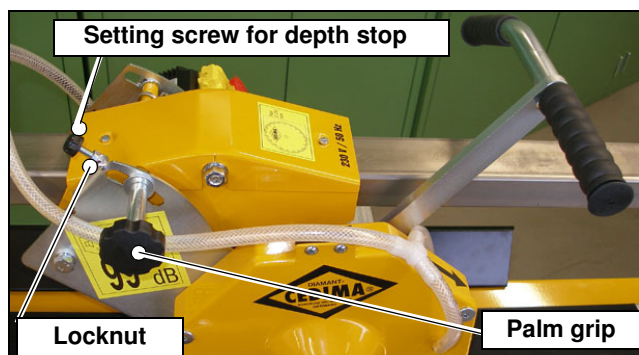

Fig. 3.27 Setting the depth stop
2. Keep hold of the swivel cutting head by the holder (grip) and loosen the palm grip (Fig. 3.27) on the swivel cutting arm!
4. Use the setting screw and locknut (Fig. 3.27) to secure the depth stop!